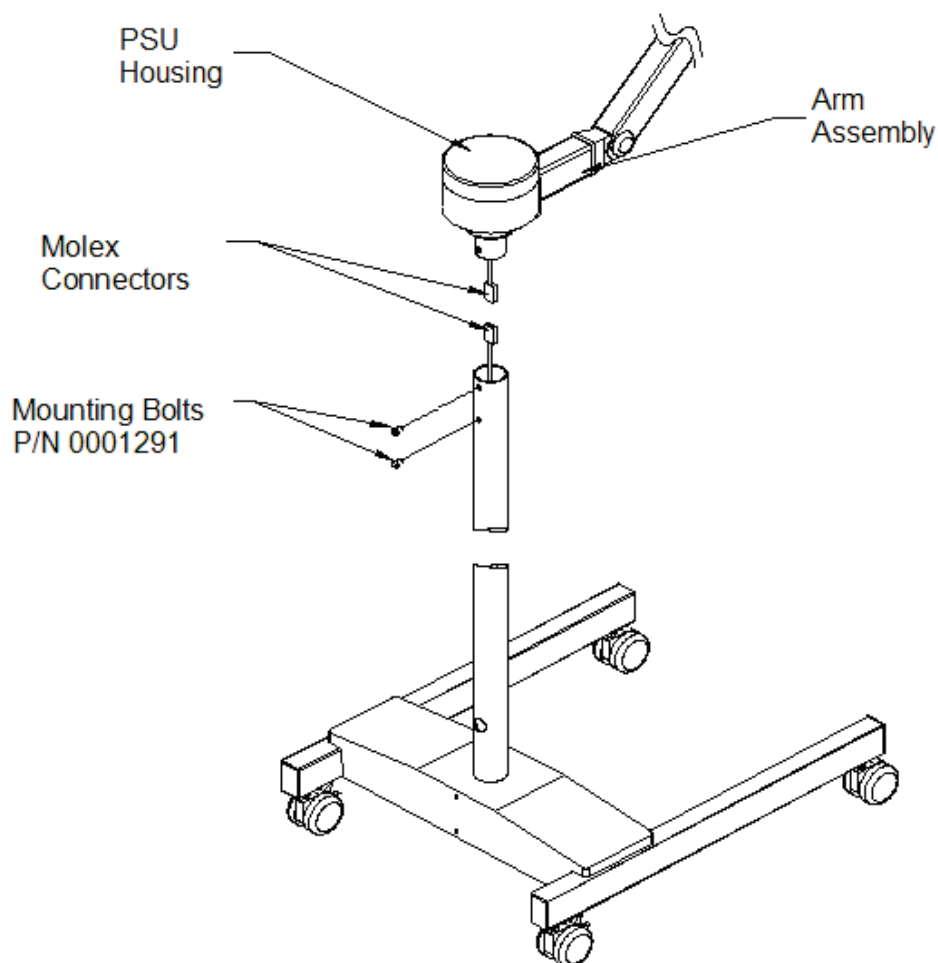

Figure 14: Arm Assembly to Upright Pole Installation
- The light arm should be positioned between the extended legs as shown in Figure 14: Arm Assembly to Upright Pole Installation.